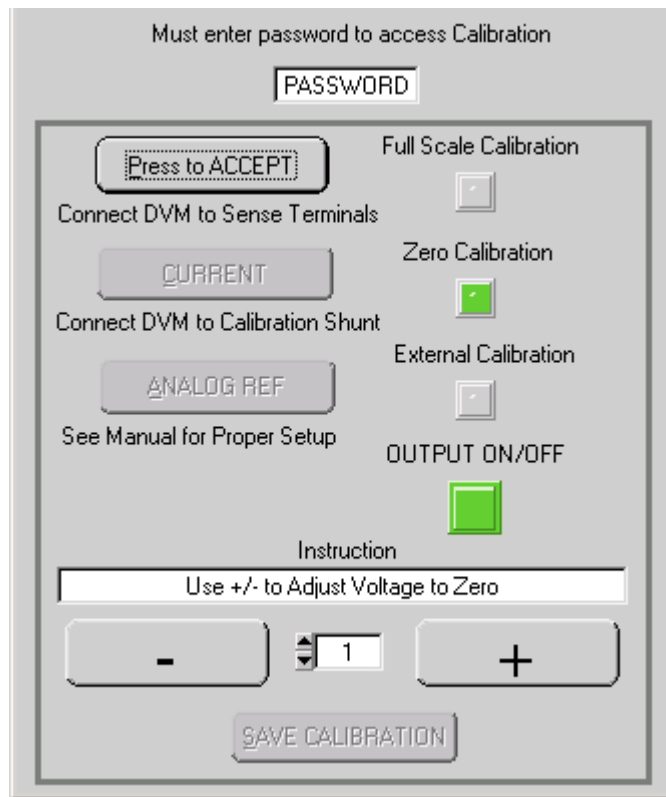

FIGURE 4-3. VOLTAGE CALIBRATION WINDOW
1. Click the **VOLTAGE** button on the Calibration window to start voltage calibration: the Voltage Calibration Window (Figure 4-3) appears. Minimum voltage is first; the status display on both the UUT and the VXI main panel) reads **V_0**. Monitor DVM and click the "+" button to increase and the "-" to decrease the output voltage until the DVM reads as close as possible to minimum rated POSITIVE voltage or zero.